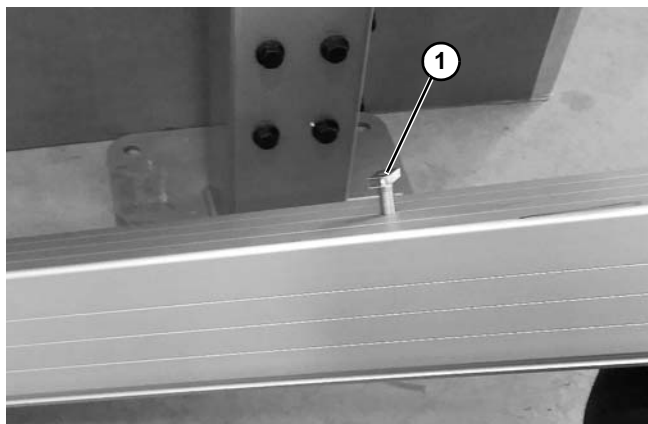
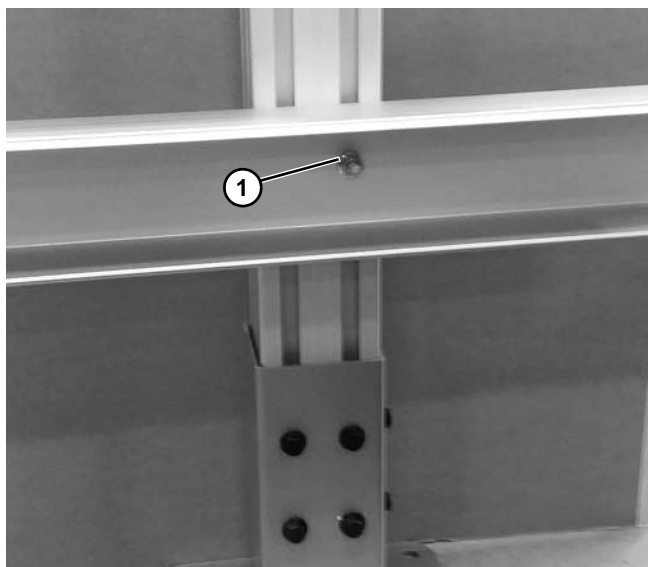

Figure 5
Figure 6
7. Mount with t-nuts (**Figure 5, item 1**) and lock nut (**Figure 6, item 1**) (not provided).